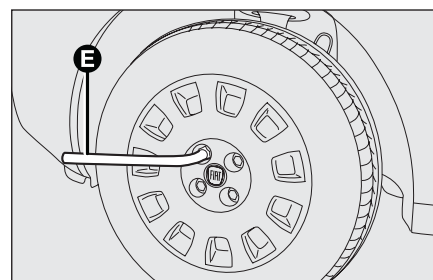

fig. 13
For a more accurate reading, check pressure gauge **F-fig. 13** with the compressor off;
- ☐ loosen the bolts of the wheel to be replaced by about one turn with the wrench provided **E**-fig. 13; if the car is fitted with alloy rims, shake the car to facilitate removing the rim from the wheel hub;